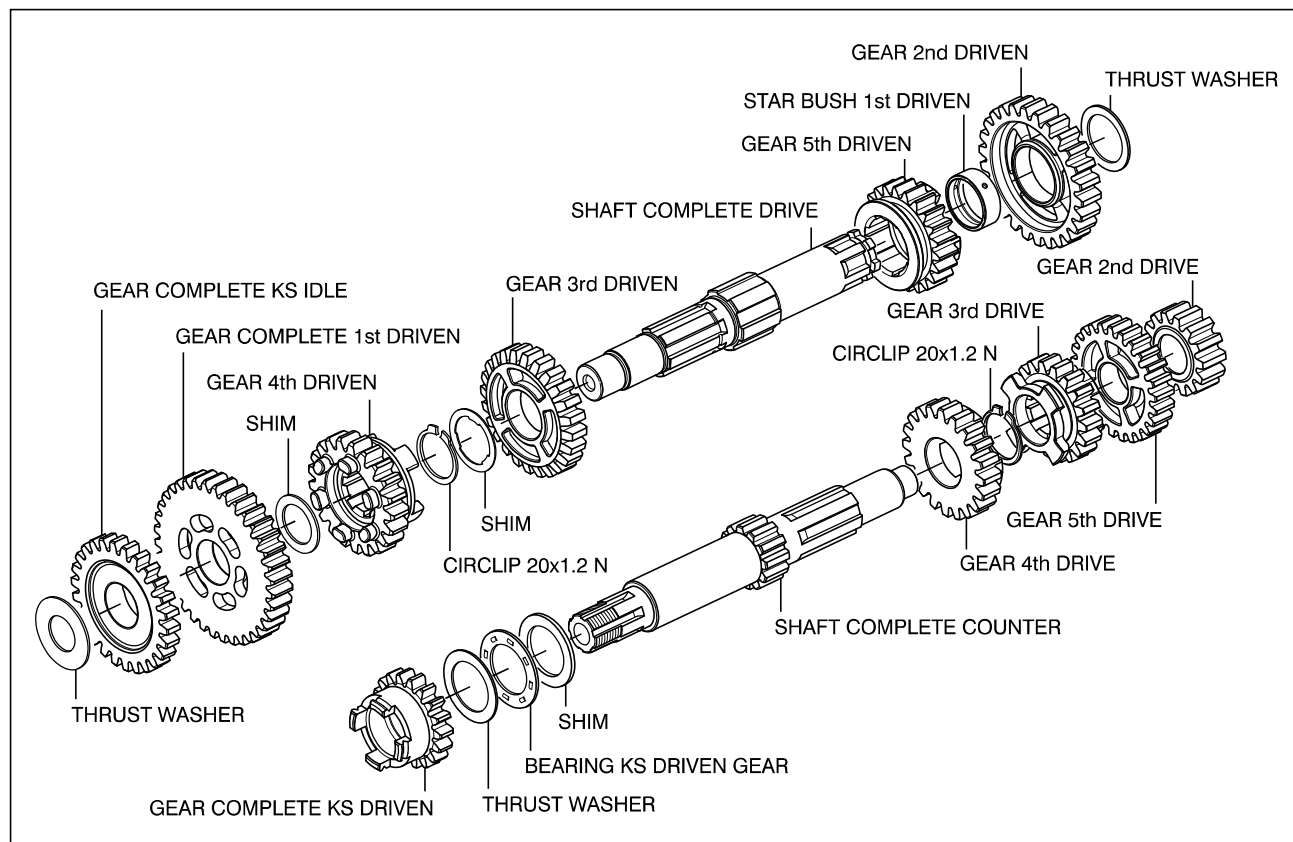

Fig. 3.175
- The exploded view will serve as a reference for correct mounting of the gears, washers and circlips. (Fig. 3.175)